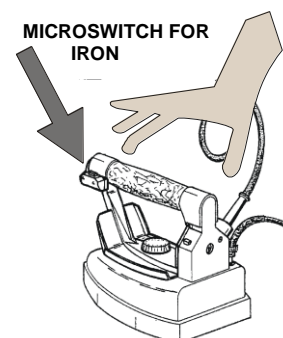

FIG. 3
1. Run the iron on garments, pressing both steam button (**fig. 3**) and suction pedal at regular intervals (**fig. 1**). In order to dry garments, we advise to keep the foot on the suction pedal a bit longer.
2. loss of water from iron (**fig. 3**),
7. cleaning or washing the iron using water (**fig. 3**),